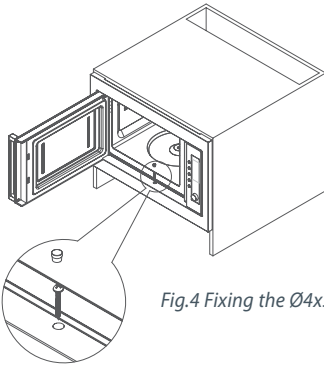

Fig.4 Fixing the $\varnothing 4 \times 35$ screw
- 3 Open the microwave door and fix the screw $\varnothing 4 \times 35$ (4) through the frame and into the cabinetry cavity. Fit screw cover (5) provided (refer to Fig.4).